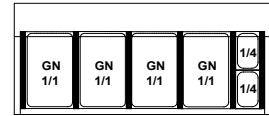

Fig.4 Layout of GN containers
- Place empty GN containers in the chamber according to Fig.4 (p.10)